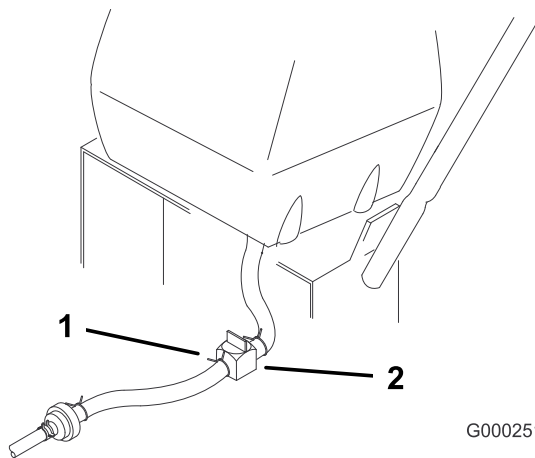

Figure 37
2. Close the fuel shut-off valve at the fuel tank (Figure 37).
3. Squeeze the ends of the hose clamp together and slide it up the fuel line away from fuel filter (Figure 37).
4. Pull the fuel line off the fuel filter (Figure 37). Open the fuel shut-off valve and allow the gasoline to drain into a gas can or drain pan.
3. Close fuel shut-off valve at fuel tank (Figure 37).
7. Open fuel shut-off valve at fuel tank (Figure 37).